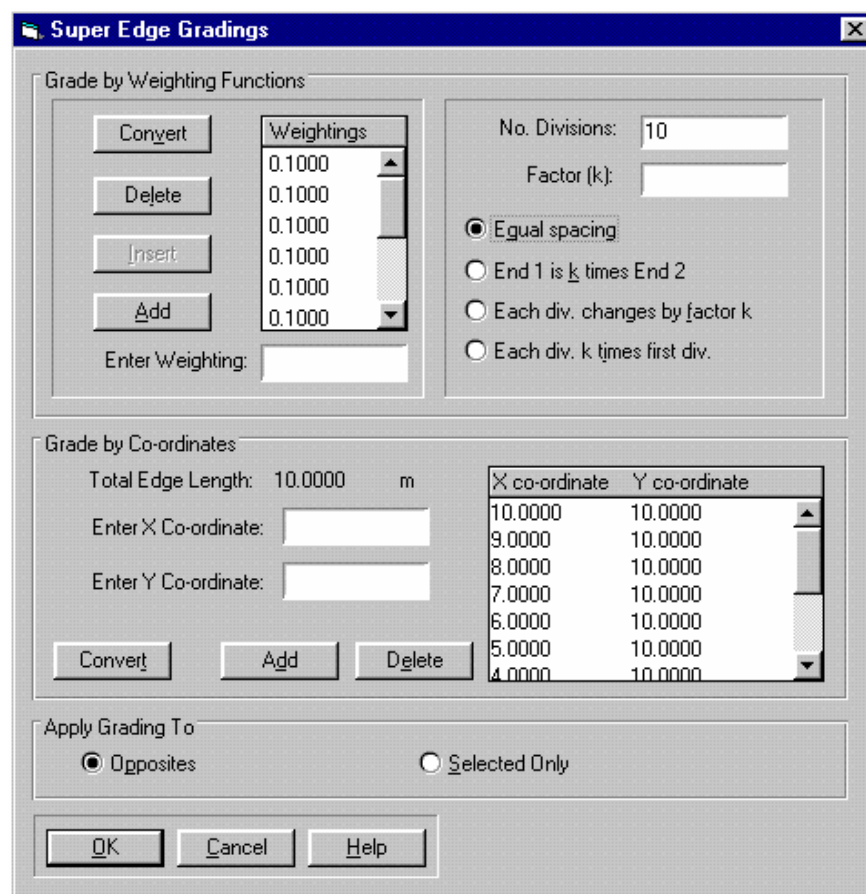

Figure 5-8: Defining Super Edge Gradings
Step 3 Enter a value of '10' into the **Number of Divisions** text box and click on the **Equal Spacing** option. Weighting values will be automatically entered into the list and the dialogue box should now look like Figure 5-8.